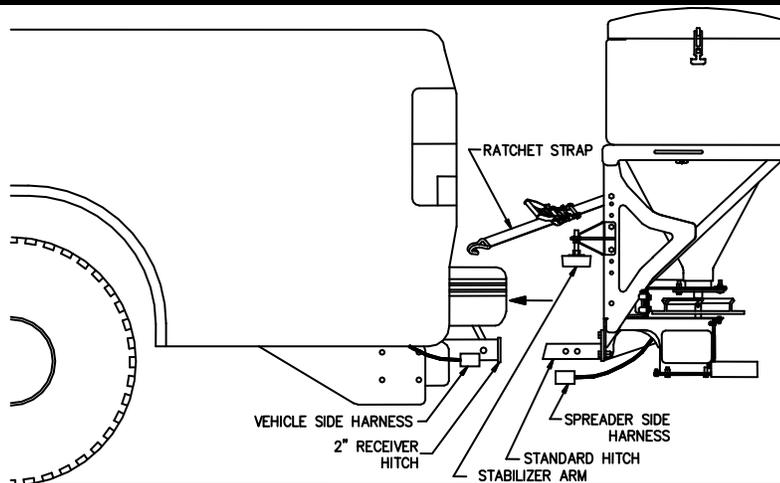

Figure 4. Slide-In Attachment Mounting Procedure
2. Refer to Figure 4. Insert the spreader's Standard Hitch into the 2" Receiver Hitch on the vehicle and line up the second hole.